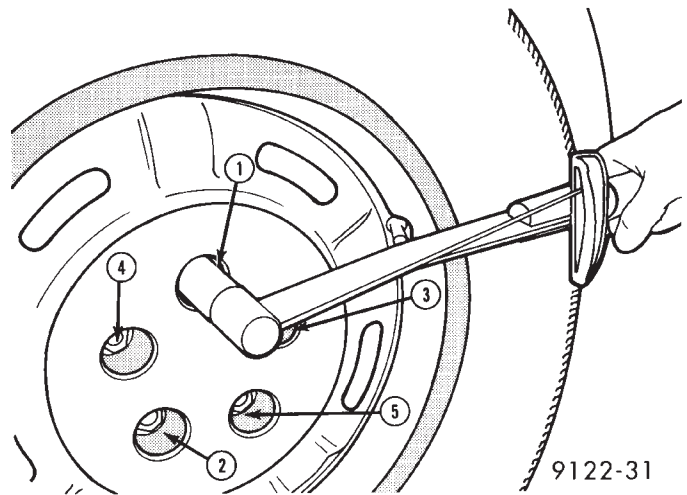

Fig. 21 Install Wheel And Tire Assembly
(4) Install wheel and tire assembly. Tighten wheel nuts to 129 N•m (95 ft. lbs.) torque (Figs. 21).